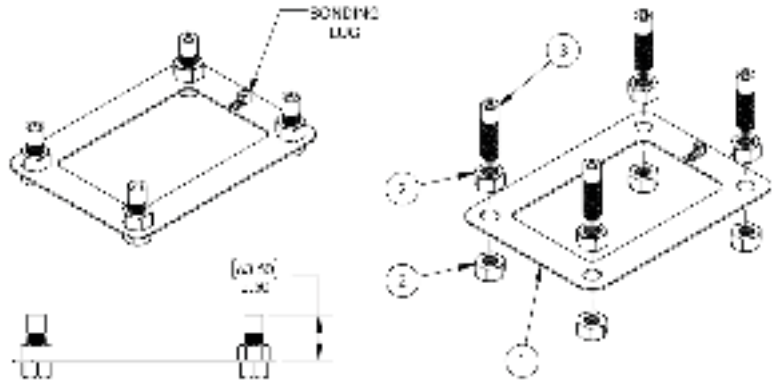

Figure 3 | Anchor Jig Assembly
- 1 Assemble the Velocity Advantage Anchoring Jig by threading the flush deck anchor as shown in Figure 3 until the top of each flush deck anchor is 2.5" (63.5mm) from the top of the anchoring plate. Measure to verify.